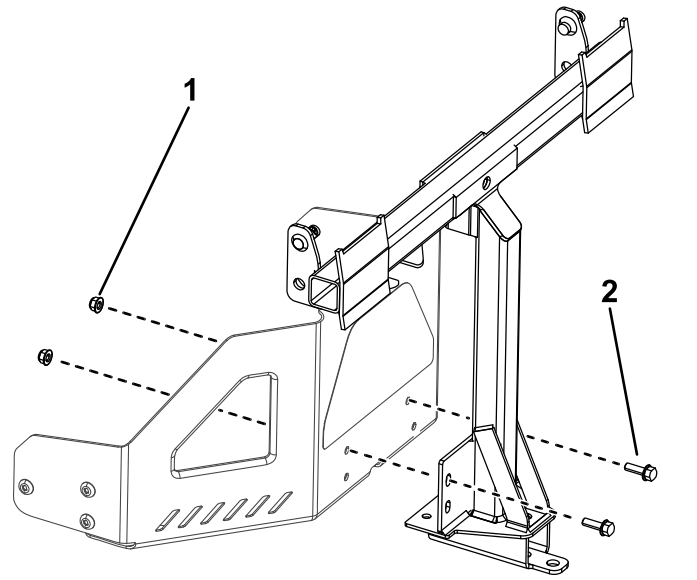

Figure 6
2. Install the pivot frame to the machine frame as shown in Figure 6. Secure the pivot frame to the machine frame using 2 bolts (5/16 x 1 inch) and 2 locknuts (5/16 inch).